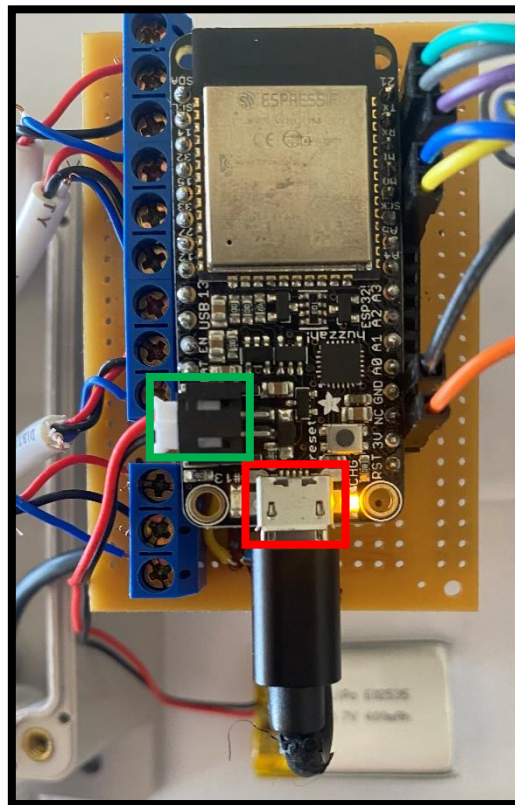

Figure 6: Battery & Mains Jack Locations
① Note that the tip of the temperature sensors are too thick to pass through the casing glands. As a result, the configuration shown above is most optimal.
- ii) Disconnect mains power from its source (from USB). Subsequently disconnect the mains power connector from the microcontroller using the **RED** location shown below in Figure 6 as reference.
- iii) Disconnect the LiPO Battery from the LiPoly JST jack using the **GREEN** location shown below in Figure 6 as reference.
① When disconnecting from the jack, ensure that a moderate lateral force is applied on the plug only (force applied directly to the wires may cause damage). If the connector won't come loose, try loosely wiggling the plug rather than applying a purely unidirectional force.
- v) Connect the new 4.2/3.7V Lithium Polymer battery to the green connection in Figure 6. The microcontroller will power upon connection if the battery isn't drained.
- vi) Reconnect the mains power connector to the red connection in Figure 6.
① *If ALL temperature sensor readings aren't being displayed, skip to **3.3.3iv** of this task.*